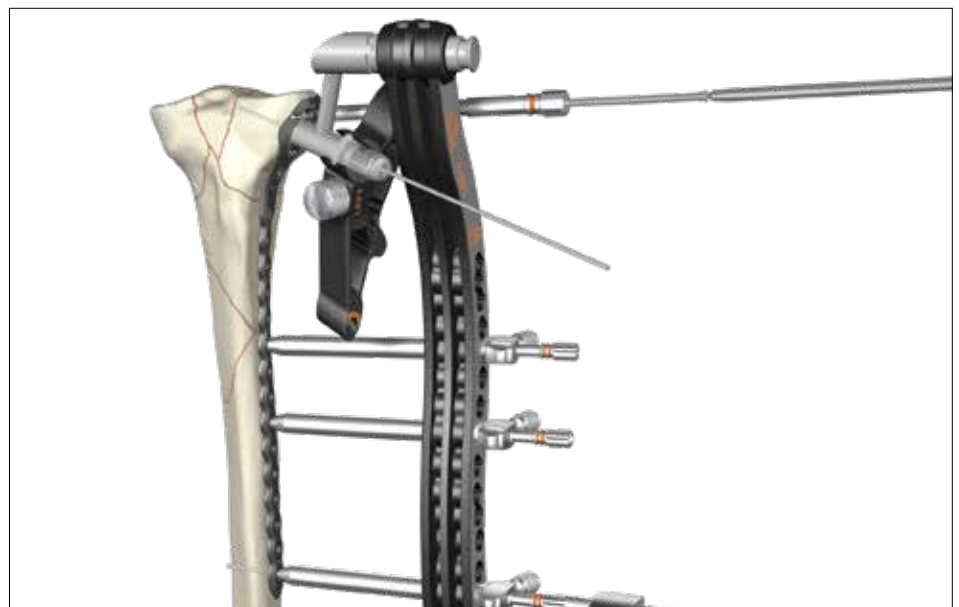

Fig. 14
The drill and the drill sleeve should now be removed and the correct 4.0mm locking screw is inserted using the screwdriver T15 (ref 703594) or screwdriver bit T15 (ref 703595) if power insertion is selected (fig. 14).